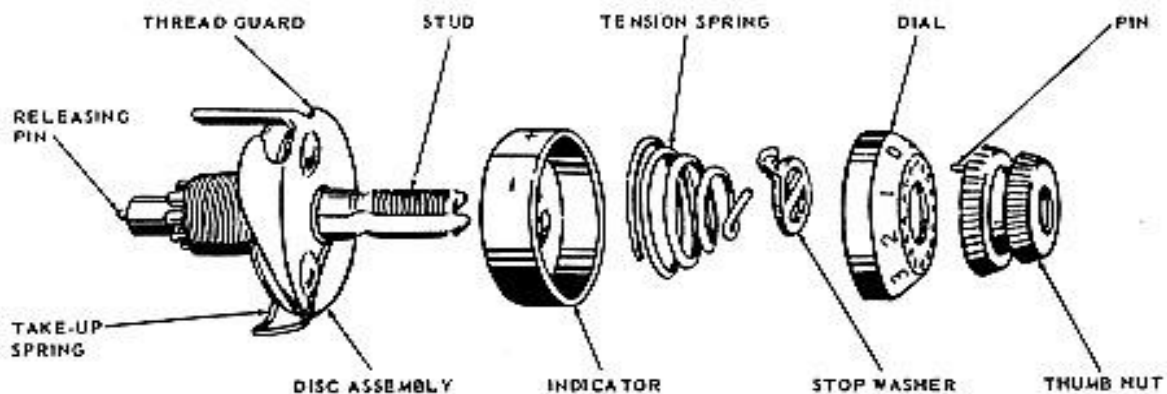

Fig. 31 Needle Thread Tension Assembly
3. Press in on dial, Fig. 31, disengage pin in thumb nut from hole in dial.
1. Make certain that releasing pin is in place as shown in Fig. 31.
6. Replace indicator, open side out, on stud with plus and minus indications at top as shown in Fig. 31.
7. Insert tension spring into indicator and replace stop washer as shown in Fig. 31